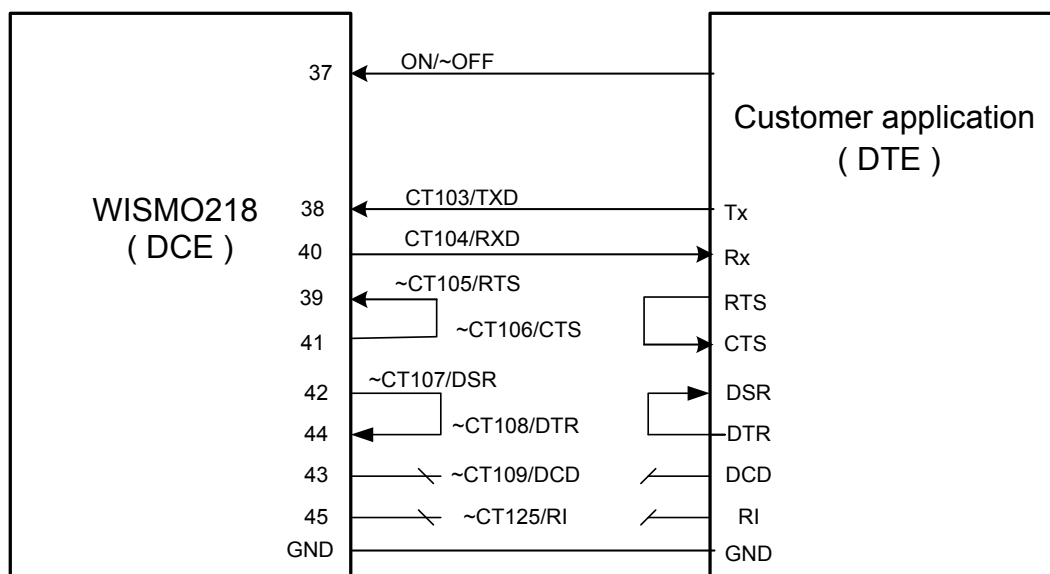
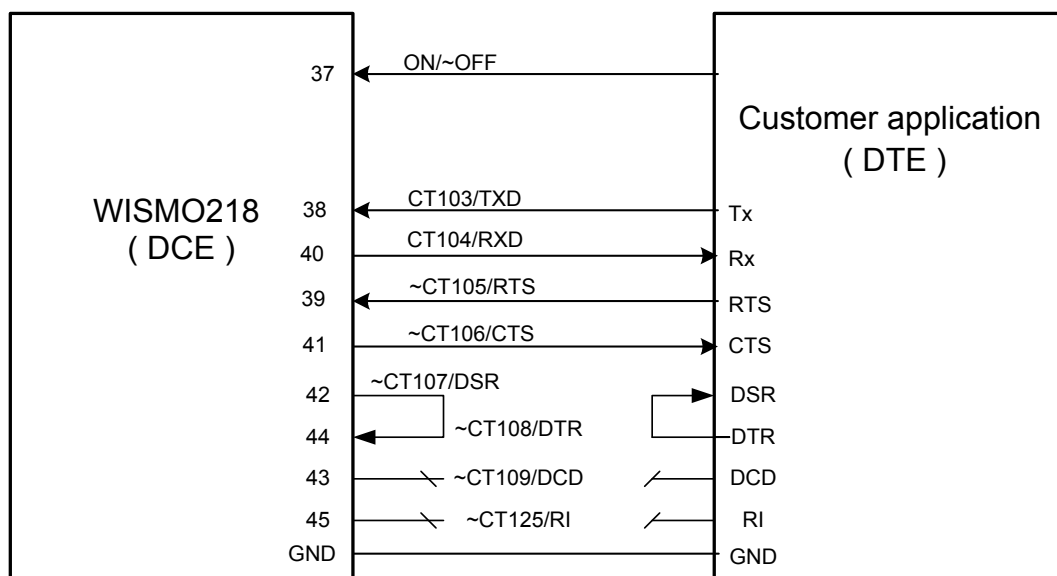
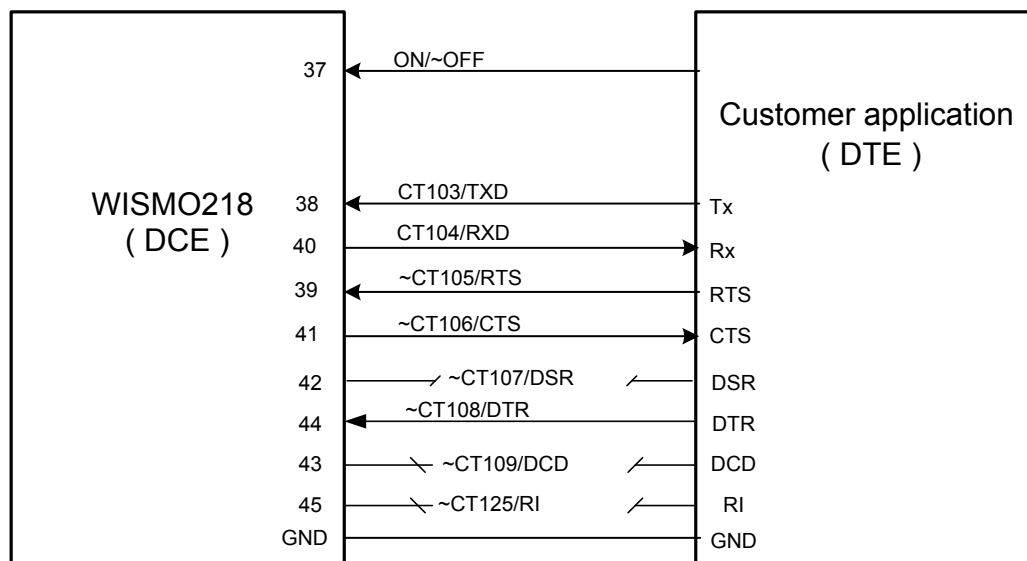

Figure 8. Example of V24/CMOS Serial Link Implementation for 2-wire UART
Figure 9. Example of V24/CMOS Serial Link Implementation for 4-wire UART
Figure 10. Example of V24/CMOS Serial Link Implementation for 5-wire UART
- For detailed configuration, please refer to Figure 10 Example of V24/CMOS Serial Link Implementation for 5-wire UART.
- For detailed configuration, please refer to Figure 9 Example of V24/CMOS Serial Link Implementation for 4-wire UART.
- For detailed configuration, please refer to Figure 8 Example of V24/CMOS Serial Link Implementation for 2-wire UART.
The designs shown in Figure 8, Figure 9, and Figure 10 are basic designs. Both the DCD and RI can be left open when not used.